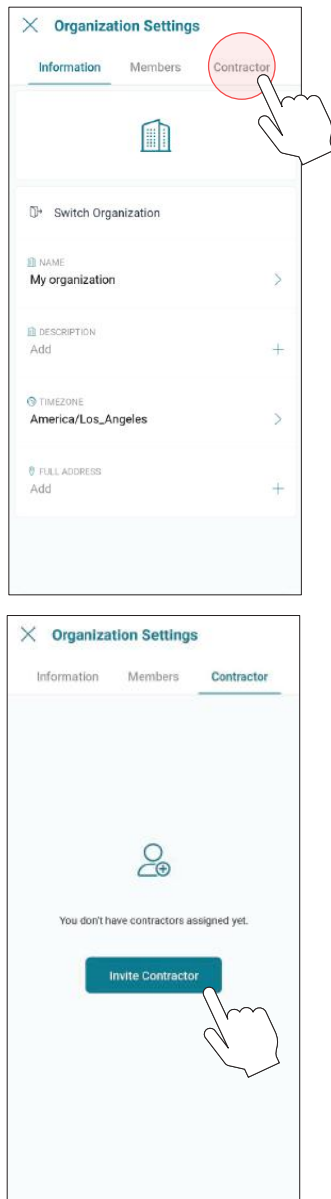

Figure 112. Click on “Invite Contractor”
- Go to **[Contractor]** tab, and press [Invite Contractor]. See Figure 112.